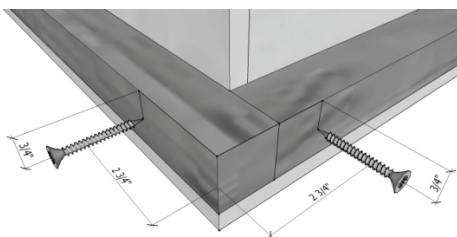

Fig. 7 – Fasten sides to base at corners.
- c. **Using 8) 2" screws, fasten** all four corners of base (horizontal) 2x2s onto corners of vertical 2x2s, **being careful** not to allow any sharp points of screws to protrude inside framework. Pre-what? Pre-drill...(fig. 7)